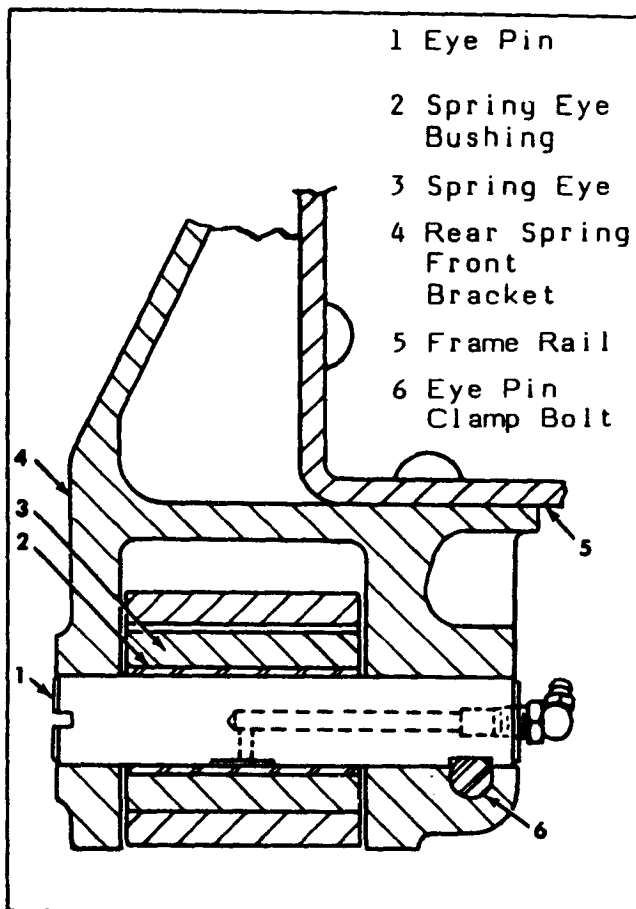

Figure 10—Section Through Front Spring Bracket and Eye Pin
4. Remove clamp bolt securing spring eye pin in front bracket (figure 10). Remove lubrication fitting from inner end of pin, pin may be removed with an adapter and slide hammer. In some cases it may be necessary to drive pin out with a drift and soft hammer from outer side.
3. Raise frame and lower axle as necessary until bracket clears spring (figure 10).